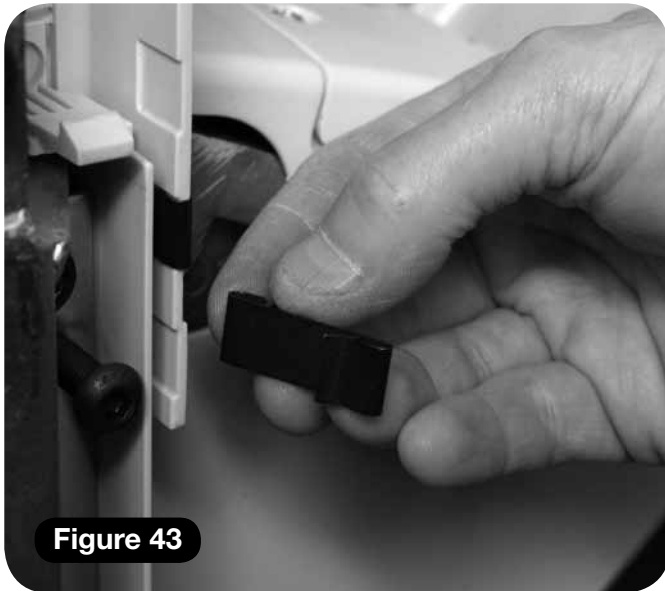
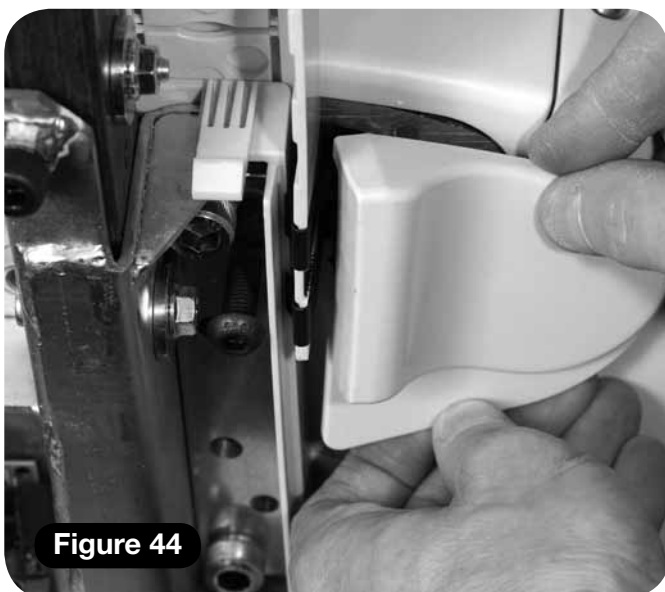

Figure 43
Figure 44
- 5 Using the clips provided (**Figure 43**) fit the cover plate to the front chassis (**Figure 44**).